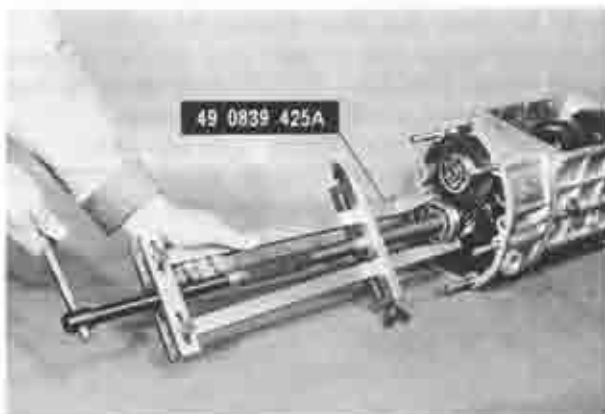

Fig. 7C-16 Removing main shaft rear bearing
18. Remove the snap ring from the rear end of the counter shaft. Using the bearing puller (49 0839 425A) shown in Fig. 7C-17, remove the counter shaft rear bearing together with the counter fifth gear from the rear of the counter shaft.